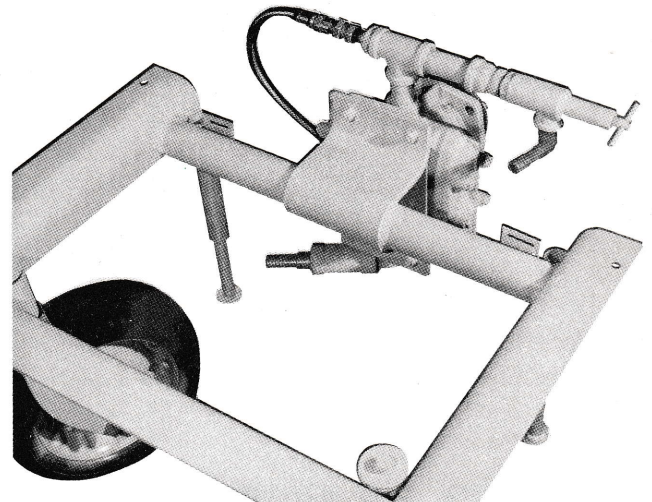

Figure 3
5. Remove the fittings from the relief valve and the strainer and replace with plastic fittings. See Figure 3.